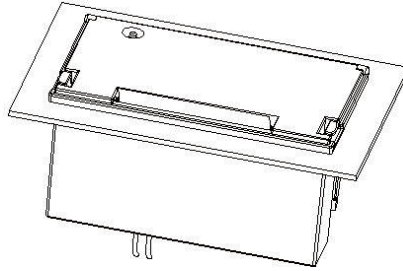

Fig. 2-6
(5) After the inner shell is completely pushed in and clamped tightly with the outer shell, paper loading is completed. As shown in Fig. 2-6: